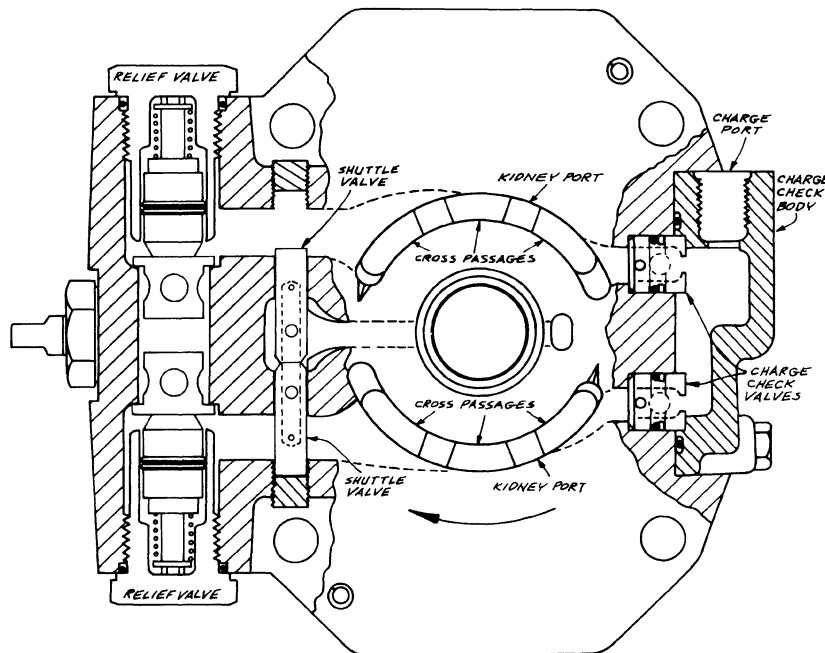

FIGURE 7
- (1) Two curved oil passages through the valve plate connect the cylinders in the rotating piston block of the pump with those in the motor block. These passages are called kidney ports. See Figure 7. Each kidney port is also open to a shuttle valve, relief valve, and charge check valve. When the machine is moving, one of the kidney ports will be in the **high** pressure side of the closed loop. The other kidney port will be in the **low** pressure side.